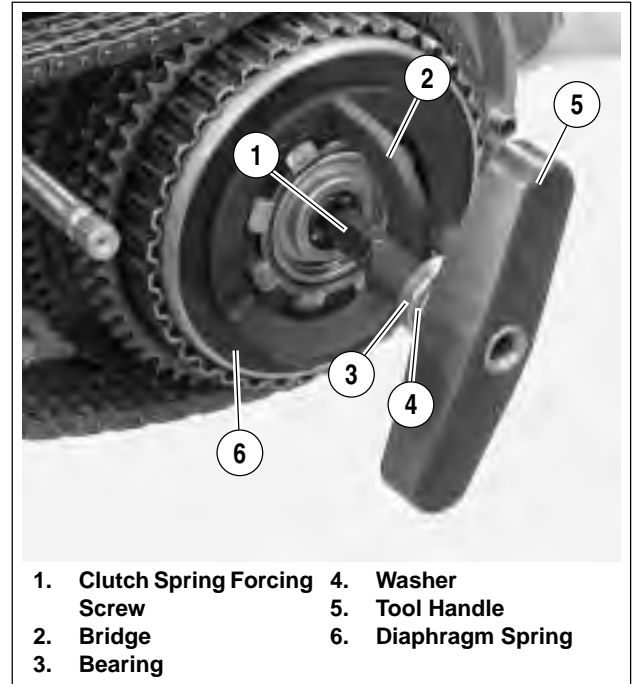

Figure 6-14. Compressing Clutch Diaphragm Spring
4. See Figure 6-14. Attach tools to compress clutch diaphragm spring.
- a. Thread the CLUTCH SPRING FORCING SCREW (Part No. HD-38515-91) (1) onto the clutch adjusting screw.
- b. Place the bridge (2) of SPRING COMPRESSING TOOL (Part No. HD-38515-A) against diaphragm spring (6).
- c. Install bearing (3) and washer (4).
- d. Thread the tool handle (5) onto end of forcing screw.